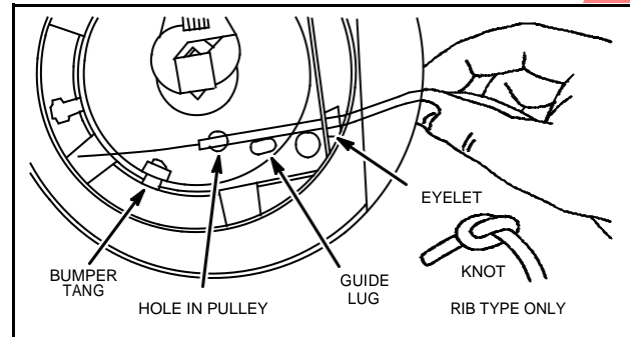

Fig. 606 – INSERTING ROPE, OLD STYLE
Thread wire and rope through rope eyelet in housing and out pulley hole, Fig. 606.
**NOTE:** Rope must pass inside a guide lug on metal pulley, Fig. 606.
Tie a knot in rope and pull tight. Make sure knot in pulley does not contact bumper tangs, Fig. 606.